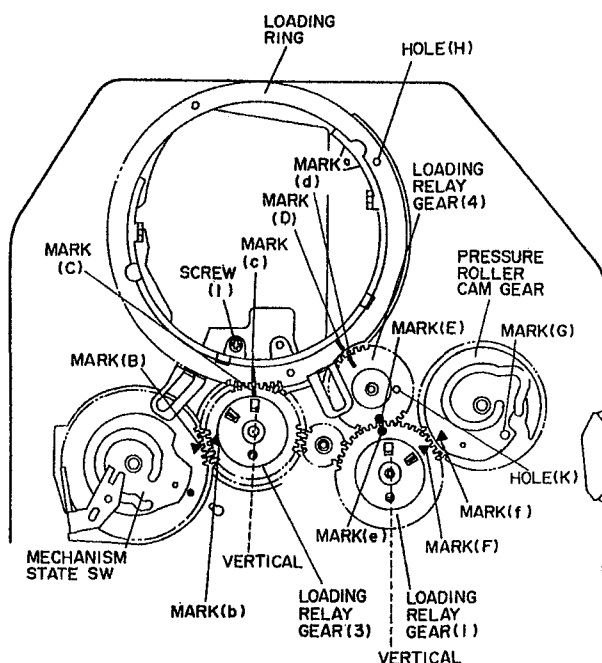
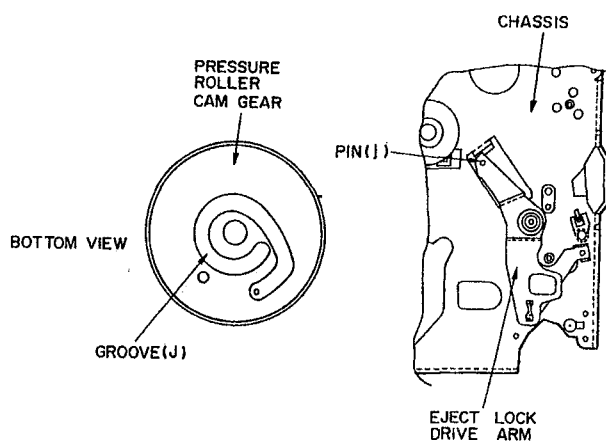

Fig. 3-2
Fig. 3-3
### 3-2. Loading Gears and Loading Ring (Figs. 3-2, 3-3)
1) Align the markings of the loading ring and gears as shown in Fig. 3-2.
**Caution:** When reinstalling the pressure roller cam gear, set the eject lock arm to the position shown in Fig. 3-3 and check that pin (j) is inserted into groove (J) in the back of the pressure roller cam gear.
**Advice:** If it is difficult to see marking (D) on the lower loading ring, match the phase by the following procedure.
- ① Set the upper and lower loading rings to the state shown in Fig. 3-2. (Watch the guide roller fixing section.)
- ② Move the upper and lower loading rings so that holes (H) overlap each other.
- ③ If holes (H) overlap each other, the phase of the loading ring is correct.
- ④ If holes (K) overlap each other, the phase of the loading relay gear (4) is correct.
### 3-2. Pull-out Pole and Impedance Roller Height Check/Adjustment (Figs. 3-2, 3-3)